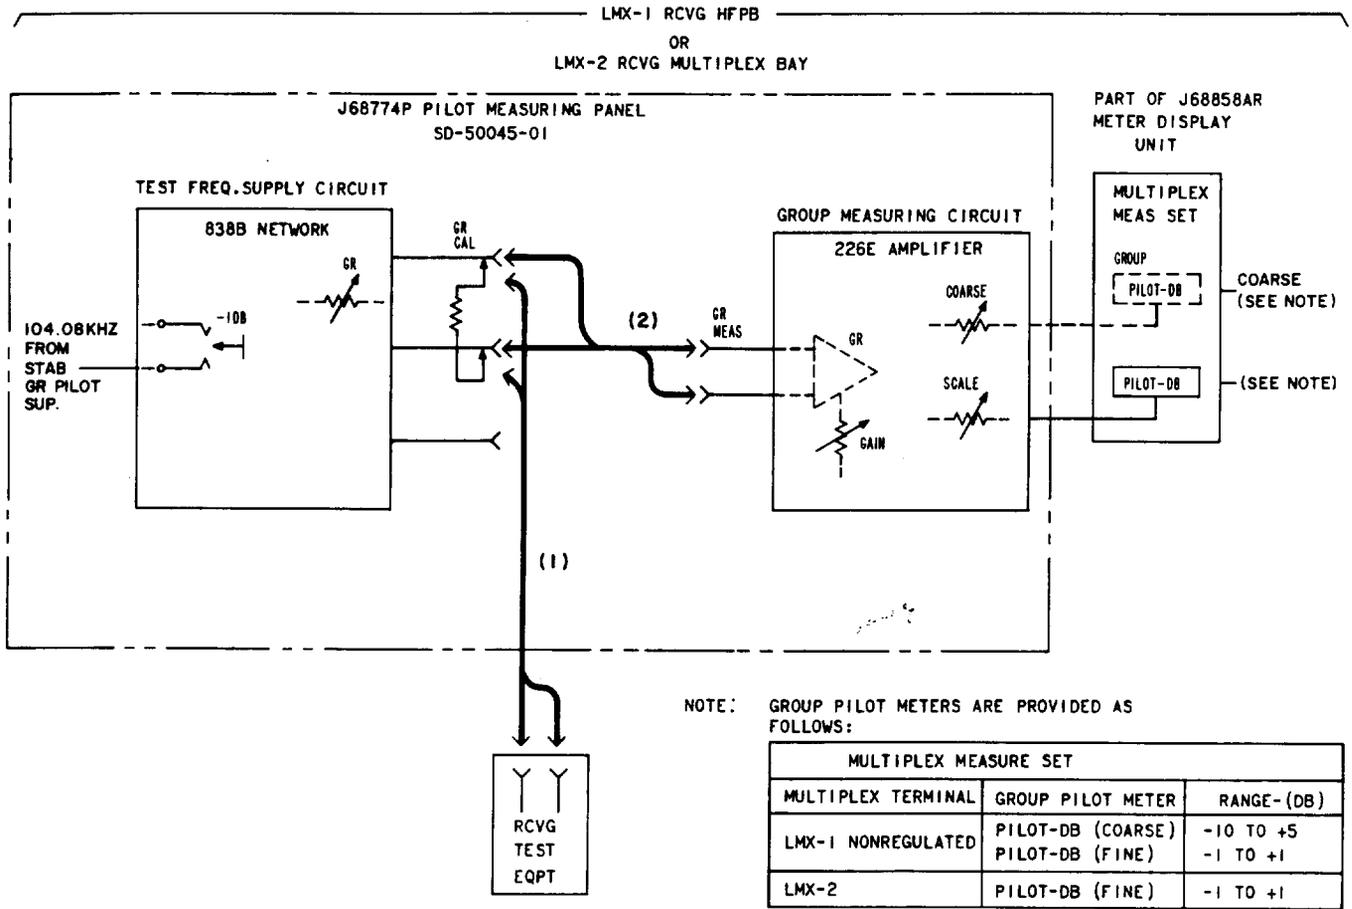

Fig. 1—104.08-KHZ Group Pilot Measuring Circuit Calibration
<p>Note: The requirements in this test are based on the assumption that the level of the 104.08-kHz group pilot signal is correct. The level from the group pilot stabilizing circuit can be tested in accordance with the appropriate section.</p> <p>1 Access to the 838B network and 226E amplifier units is required when performing this test. Remove the two machine screws and coverplate from the front right-hand side of the pilot measuring panel.</p> <p>2 Set up and calibrate the receiving test equipment for a 135-ohm terminated measurement of 104.08 kHz at a level of -35 dBm.</p> <p>3 Make patch (1) in Fig. 1.</p> <p>4 Measure the power level of the 104.08-kHz signal at the GR CAL jack.</p> <p>Requirement: -35 dBm \pm0.05 dB.</p> <p>5 If the requirement of Step 4 is met, proceed to Step 6. If it is not met, adjust the GR control on the 838B network to meet the requirement.</p> <p>6 Remove patch (1) in Fig. 1.</p> <p>7 Make patch (2) in Fig. 1.</p> <p>8 Read the GROUP PILOT-DB fine meter (see Note in Fig. 1).</p> <p>Requirement: 0 dB.</p> <p>9 If the requirement of Step 8 is met, proceed to Step 10. If it is not met, adjust the GAIN control on the GR amplifier for a reading as close to zero as possible, but in no case outside a \pm0.1 dB deviation.</p> <p>10 Depress and hold depressed the -1 DB switch on the 838B network.</p> <p>11 Read the GROUP PILOT-DB fine meter.</p> <p>Requirement: 1 dB less than the value read in Step 8 (or Step 9 if adjustment was required).</p> <p>12 If the requirement of Step 11 is met, proceed to Step 15. If it is not met, maintain the -1 DB switch depressed and adjust the SCALE control on the GR amplifier to meet the requirement.</p>
15	If the GROUP PILOT-DB coarse meter is provided (see Note in Fig. 1), proceed to Step 16. If it is not provided, proceed to Step 20.
20	Remove patch (2) in Fig. 1.